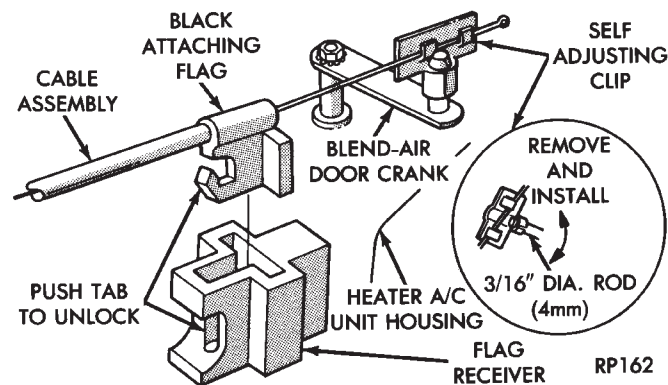

Fig. 1 Temperature Control Cable—Typical
(1) Remove heater-A/C control panel. Refer to Switch and Panel Component Service in Group 8E, Instrument Panel. Disconnect the attaching flag on the control cable from the heater-A/C control panel.
(2) Remove console assembly. Refer to Group 8E, Instrument Panel.
(3) Remove instrument panel lower steering column cover. Refer to Group 8E, Instrument Panel.
(4) Remove the right lower instrument panel/glove box door assembly. This assembly is clipped to the upper instrument panel at the right upper side.
(5) A/C equipped vehicles: From under the hood, disconnect the A/C suction line mounting bracket from the dash panel (above the expansion valve).
(6) From under the hood, loosen (do not remove) the four heater-A/C assembly to dash panel mounting nuts.
(7) From inside the vehicle: Remove the vertical (heater-A/C housing) support bracket (below the glove box).
(8) Tilt the entire heater-A/C housing assembly downward to gain access to the temperature cable.
(9) Locate and disconnect the attaching flag on the control cable at the heater-A/C housing (Fig. 1).
(10) Slip the cable self-adjusting clip from the blend-air door crank.
(11) Remove the cable from the vehicle.
(12) To remove the self-adjusting clip from cable (Fig. 1):